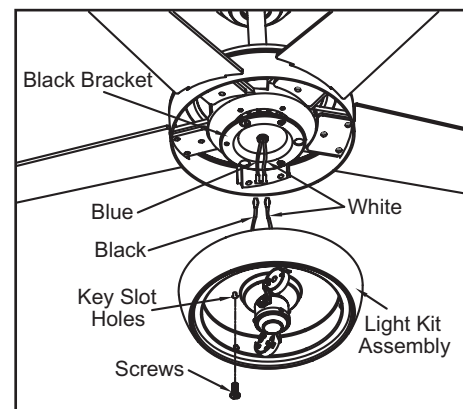

Figure 16
1. Remove one screw from the black bracket below the fan motor assembly. Loosen, but do not remove the other two screws (Figure 16).
Connect the white wire exiting the bottom of the fan motor assembly with the white wire from the top of the light kit fitter assembly (Figure 16).